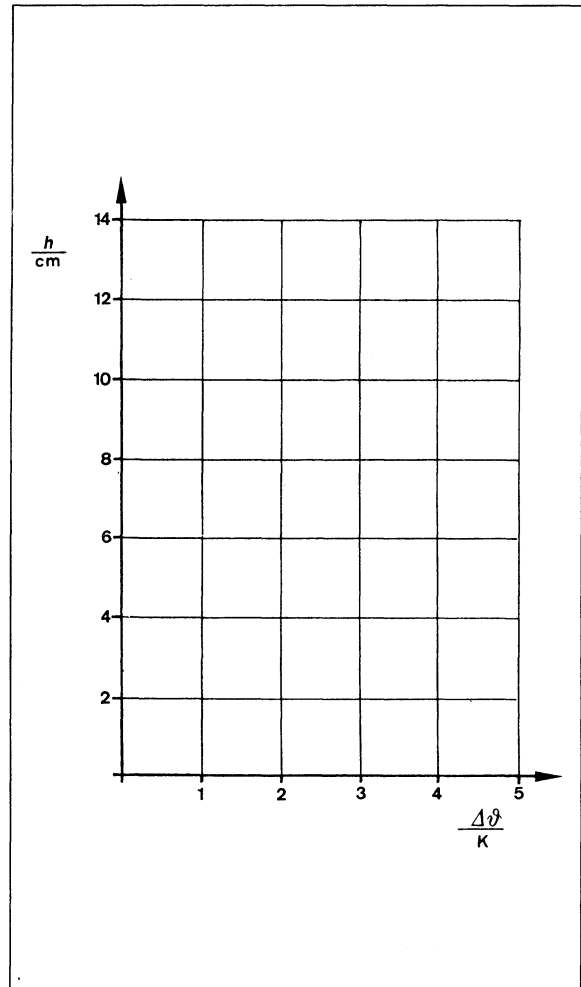

Fig. 2 Diagram showing pressure as a function of temperature.
25. Copy the measured values into the diagram (fig. 2).